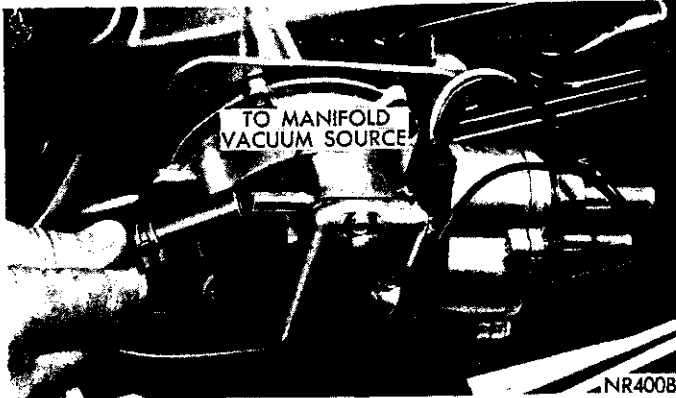

Fig. 7—Removing or Installing Servo Hose
(2) Disconnect speedometer and transmission drive cables at the servo housing.
(3) Disconnect vacuum hoses at servo housing (Fig. 7) and electrical connectors.
(4) Remove servo from mounting bracket (2 self-locking nuts).